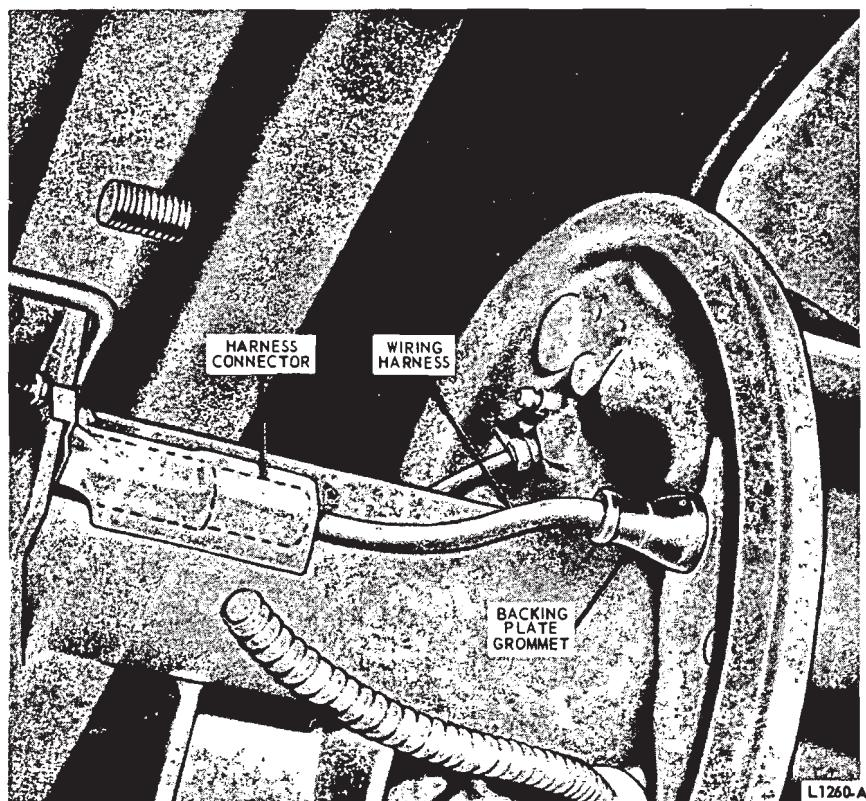

FIG. 13—Sensor Wiring Harness Connection
3. Remove the three Tinnerman nuts (3) and remove the brake drum.
4. Disconnect the sensor lead from the rear wiring harness (Fig. 13).
6. Connect the sensor lead to the rear wiring harness and install two retaining straps. (Fig. 13).